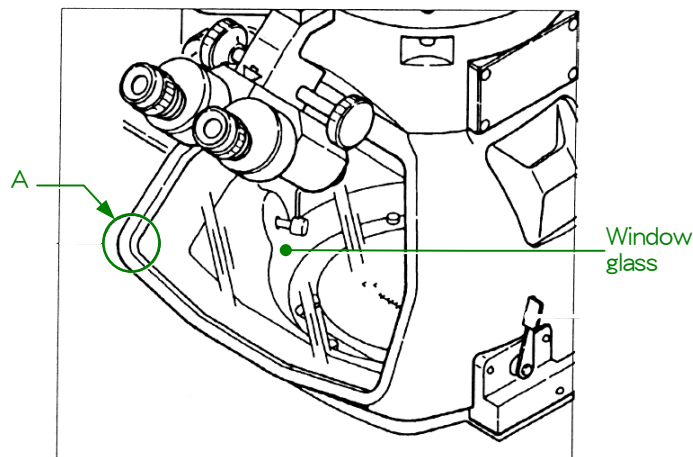
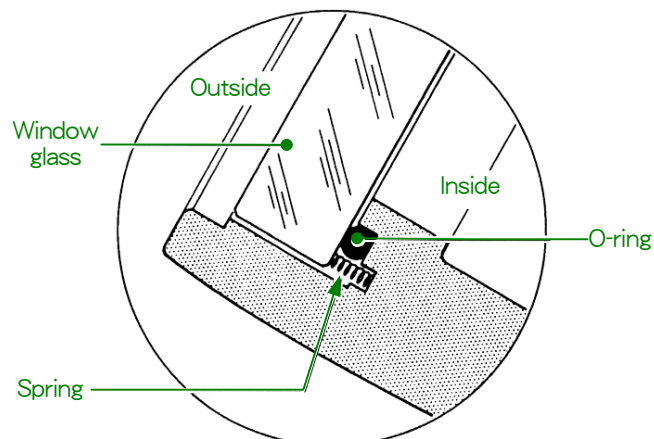

Fig. 6.14 Viewing chamber
Fig. 6.16
- Make sure that the glass grounding spring (at A in Fig. 6.14) is properly set (Fig. 6.16), and that the O-ring and its mating surface are free from lint; then replace the glass.